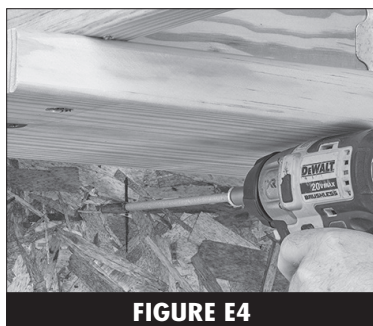

FIGURE E4
5. Install the fastener to the correct depth using the reference line on screw. **(Figure E4)**